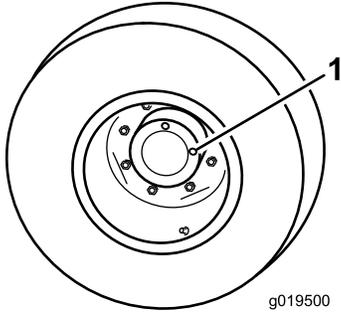

Figure 72
1. With machine on level surface, position the wheel so 1 check plug is at the 12 o'clock position and the other is at 3 o'clock position (Figure 72).
1. Check/drain plug (2)
2. Remove the plug at the 3 o'clock position (Figure 72).